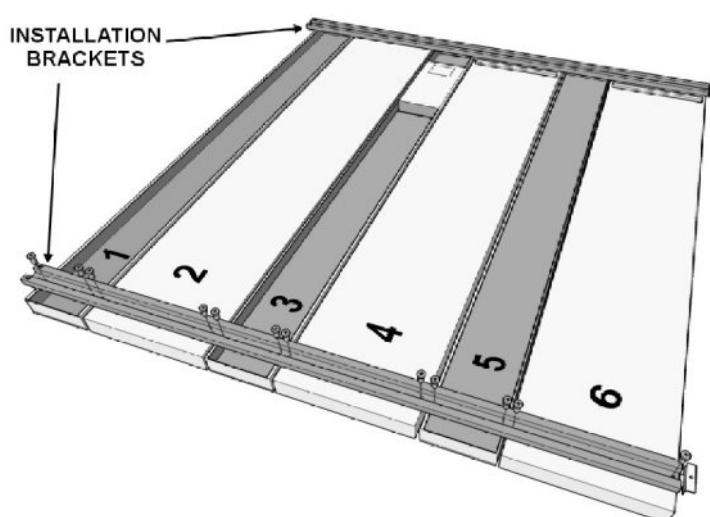

Fig. 3.1: Support brackets
Place the modules face down on the floor and in numerical order from top to bottom (Fig. 3.1), in order to assemble the desired panel (see various models on page 2).
3. Position the two brackets over the modules and align the holes; using a Phillips screwdriver and the screws provided, firmly attach the brackets to the modules (see Fig. 3.1).